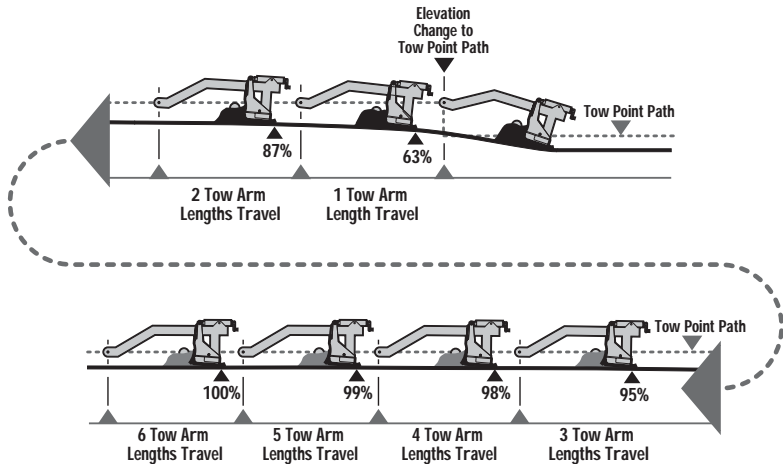

**Figure 2-3. Screed Determines Mat Thickness**
- If the screed angle of attack is increased the screed rises, increasing the mat thickness (Figure 2-3).
- If the angle of attack is decreased, the screed will settle, providing a thinner mat surface (Figure 2-3).